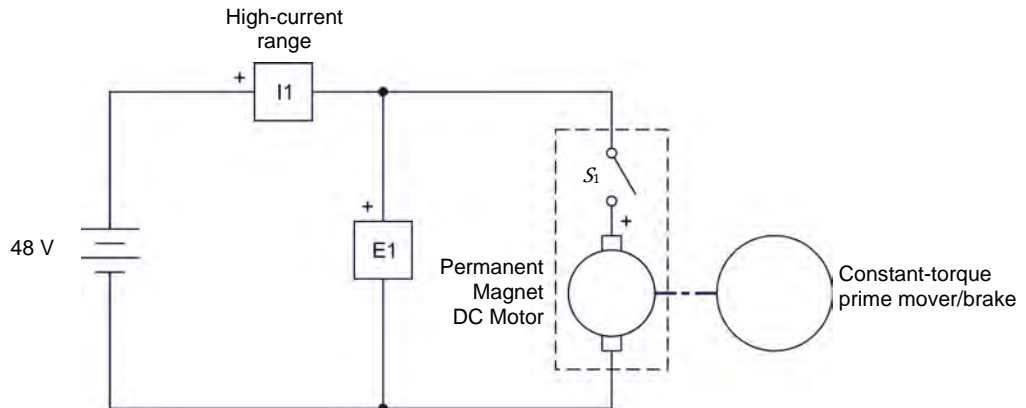

Figure 46. Setup used to plot the torque-versus-current and speed-versus-torque characteristics of a permanent magnet dc motor operating as a motor.
19. Connect the equipment as shown in Figure 46. Use the high-current (40 A) terminal of input I1 on the Data Acquisition and Control Interface (DACI).